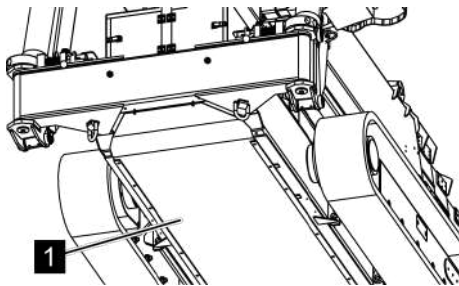

Fig. 166: Loosening the bottom plate
3. ➤ Unscrew the bottom plate (Fig. 166/1).